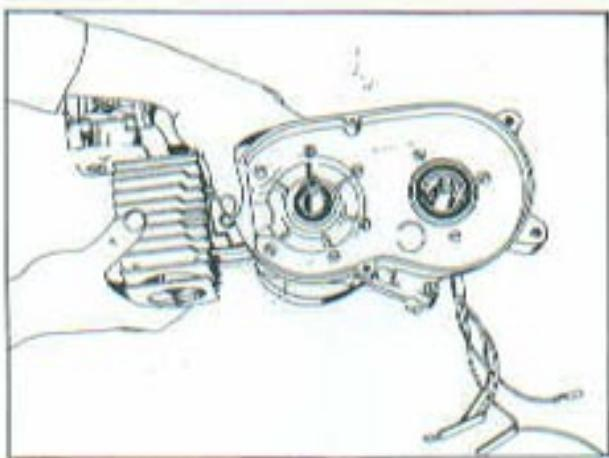

FIG. 5
3. Remove the cylinder (Fig. 5)